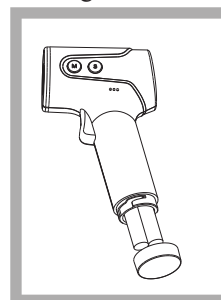

Figure 9
3. Remove battery and install 2 new AAA alkaline batteries as shown in Figure 9.